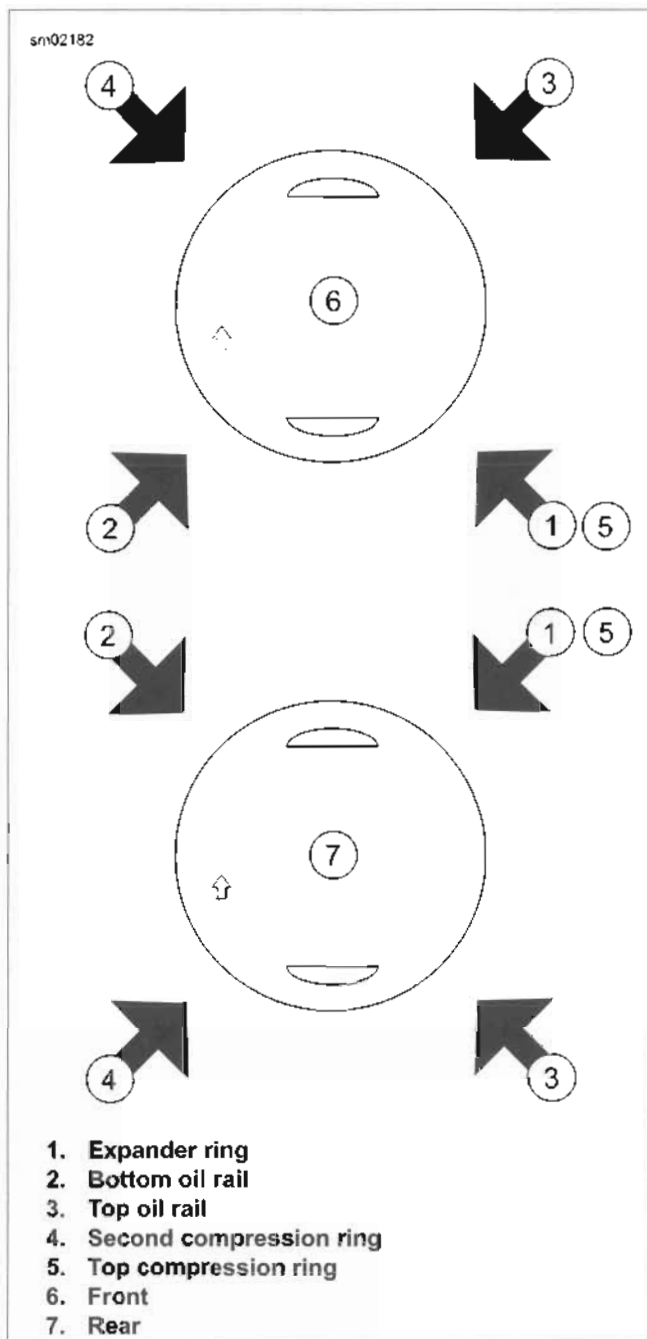

Figure 3-67. Piston Ring Gap Alignment
8. See Figure 3-67. Verify the ring gaps are still properly staggered.